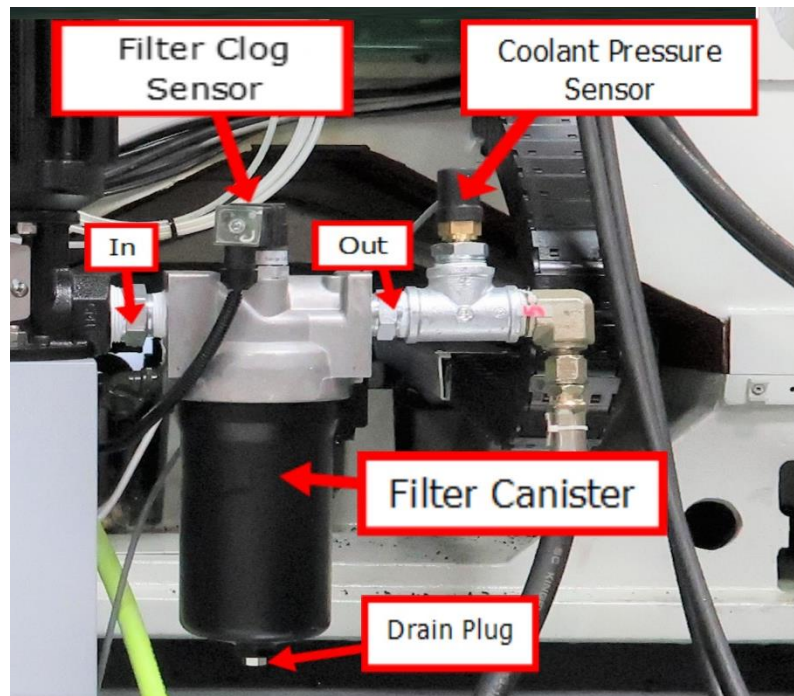

Figure 2.11a
2. Attach the filter, pressure sensor and fittings assembly to the CTS pump as shown in figure 2.11a.
5. Wires for both the Filter Clog Sensor and the Coolant Pressure Sensor are tie wrapped to the rear of the electric cabinet. Connect the Filter Clog Sensor to the top of the filter see figure 2.11a.
8. Test the Filter Clog Sensor with the mill running and CTS enabled, unplug the Filter Clog Sensor wire shown in figure 2.11a and check the screen for the message shown in figure 2.11f. This message is a warning and does not cause the mill to stop operations. Secure the screws and cord grip used in these steps.